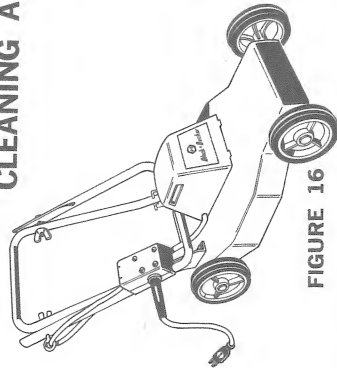
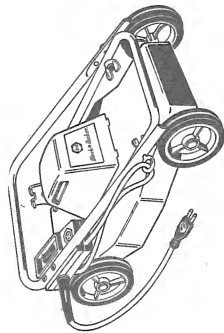

FIGURE 16
FIGURE 17
FOLDING MOWER HANDLE — The handle can be folded either as shown in Figure 16, or as shown in Figure 17 as follows:
(1) **FIGURE 16** — Loosen two wing nuts that hold upper and lower handle sections together. Fold upper handle section forward as shown.
(2) **FIGURE 17** — Squeeze both lower handle legs inward so that they clear the mounting brackets on the mower deck. Fold handle forward to a horizontal position. Loosen two wing nuts that hold upper and lower handle sections together. Fold upper section backward as shown. Be careful to avoid pinching electric cord.